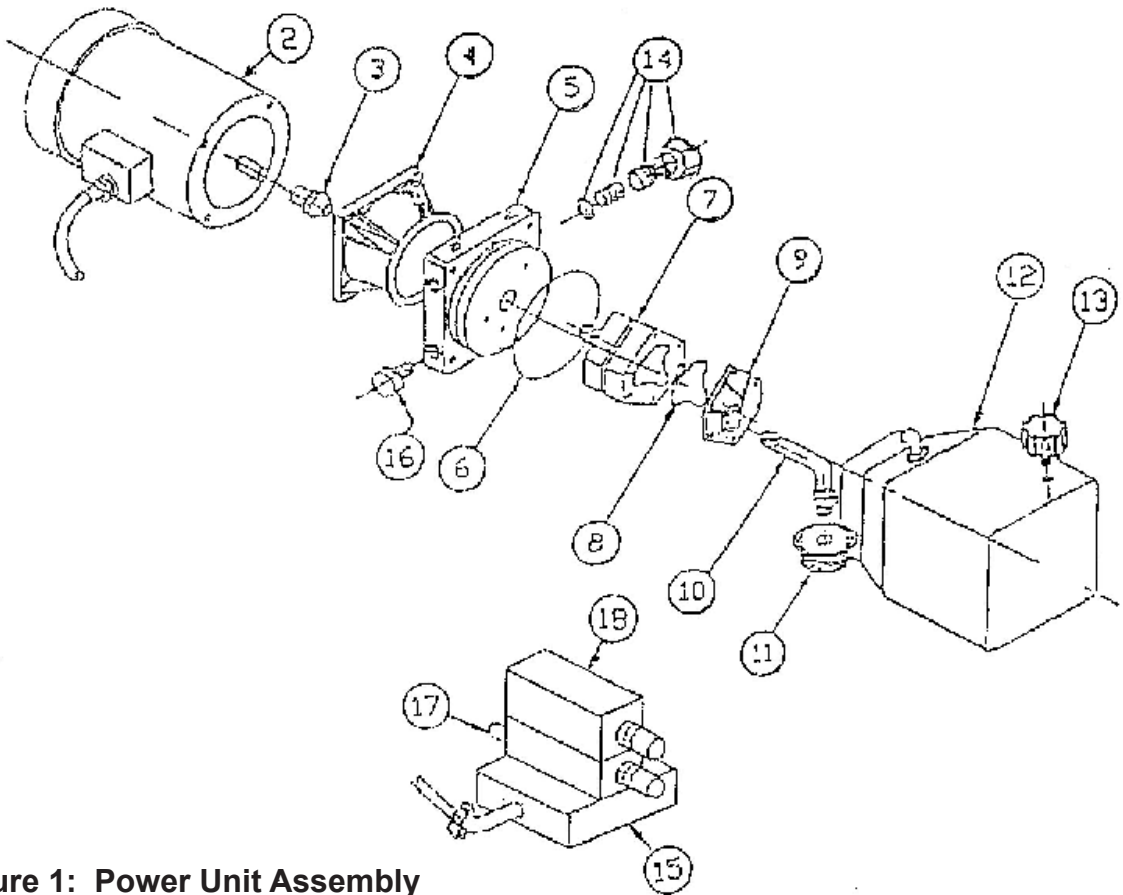

Figure 1: Power Unit Assembly
3. Remove the maintenance device(s) from its/their storage location and place it/them into the engaged position as shown in Figure 1. (Note: further information may be useful here to provide additional instructions as to the location and method of storage and engaged positions).